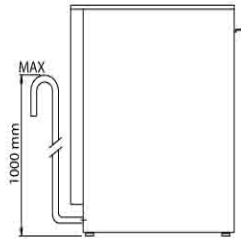

Fig. 7
- Position the outlet pipe at a height anywhere between 750 and 1000mm from the floor. (Fig.7)